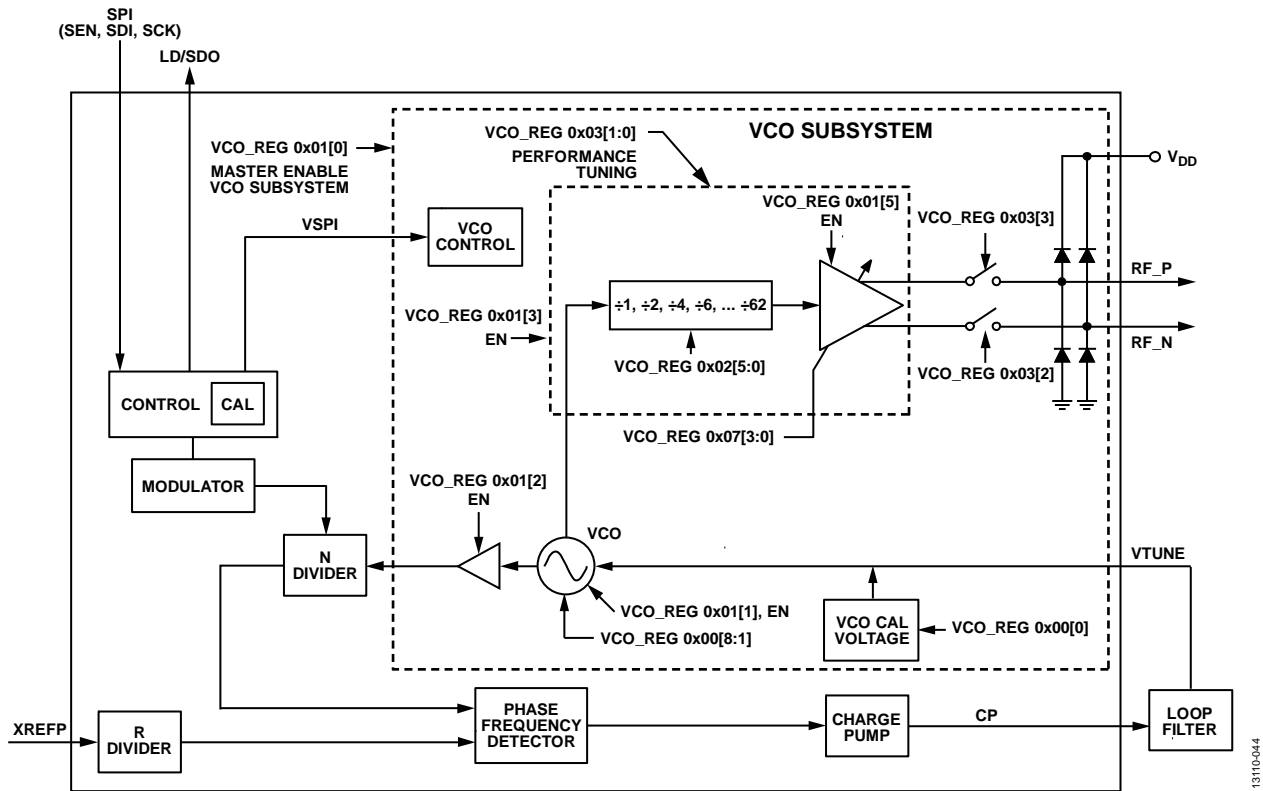

Figure 39. PLL and VCO Subsystems
All modes are VCO register programmable, as shown in Figure 39. One loop filter design can be used for the entire frequency of operation of the HMC832A.
- The VCO SPI register, Register 0x05. This write is required only for manual control of VCO if Register 0x0A[11] = 1, autocalibration is disabled, or to change the VCO output divider value (VCO\_REG 0x02). See Figure 39 for more information.
The VCO subsystem registers are not directly accessible. They are written to the VCO subsystem via PLL Register 0x05. See Figure 39 and the VCO Serial Port Interface (VSPI) section for more information about the VCO subsystem SPI.